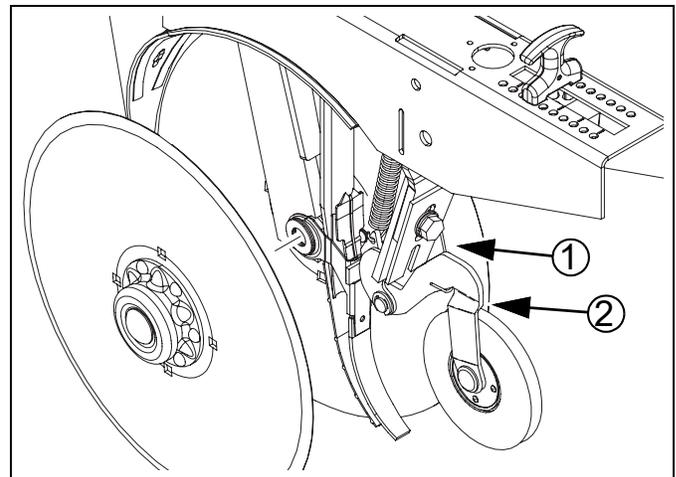

Figure 37
**Refer to Figure 37 (shown with an opener disk removed for clarity - this task can be performed with disks mounted)**